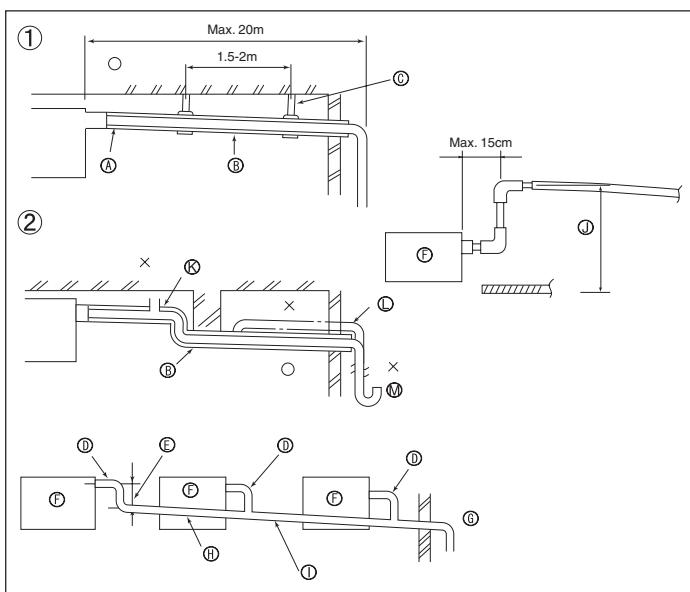

Fig. 5-1
5.1. Drainage piping work (Fig. 5-1)
① Correct piping	③ Support metal
② Wrong piping	④ Air bleeder
⑤ Insulation (9 mm or more)	⑥ Raised
⑥ Downward slope (1/100 or more)	⑦ Odor trap